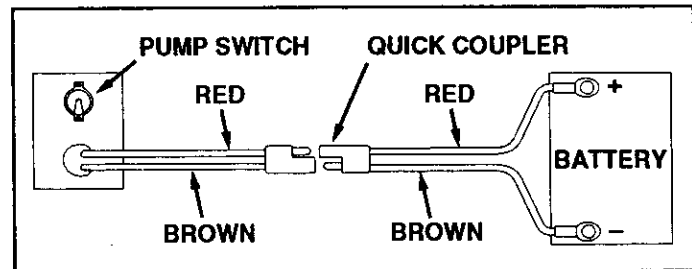

FIGURE 11
- Attach the sprayer to the tractor hitch and connect the wiring to the tractor battery. The red wire must be connected to the positive post on the battery or to the "HOT" connection on a tractor switch or ammeter. The brown wire may be grounded or connected to the negative battery post. See figures 11 and 12.